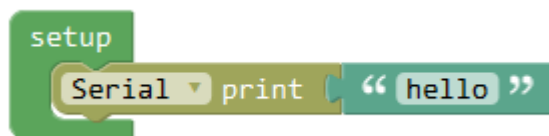

Figure 1-9
- 1) The control building blocks are the building blocks that control the execution flow of the program, and the leading program, as shown in Figure 1-9.